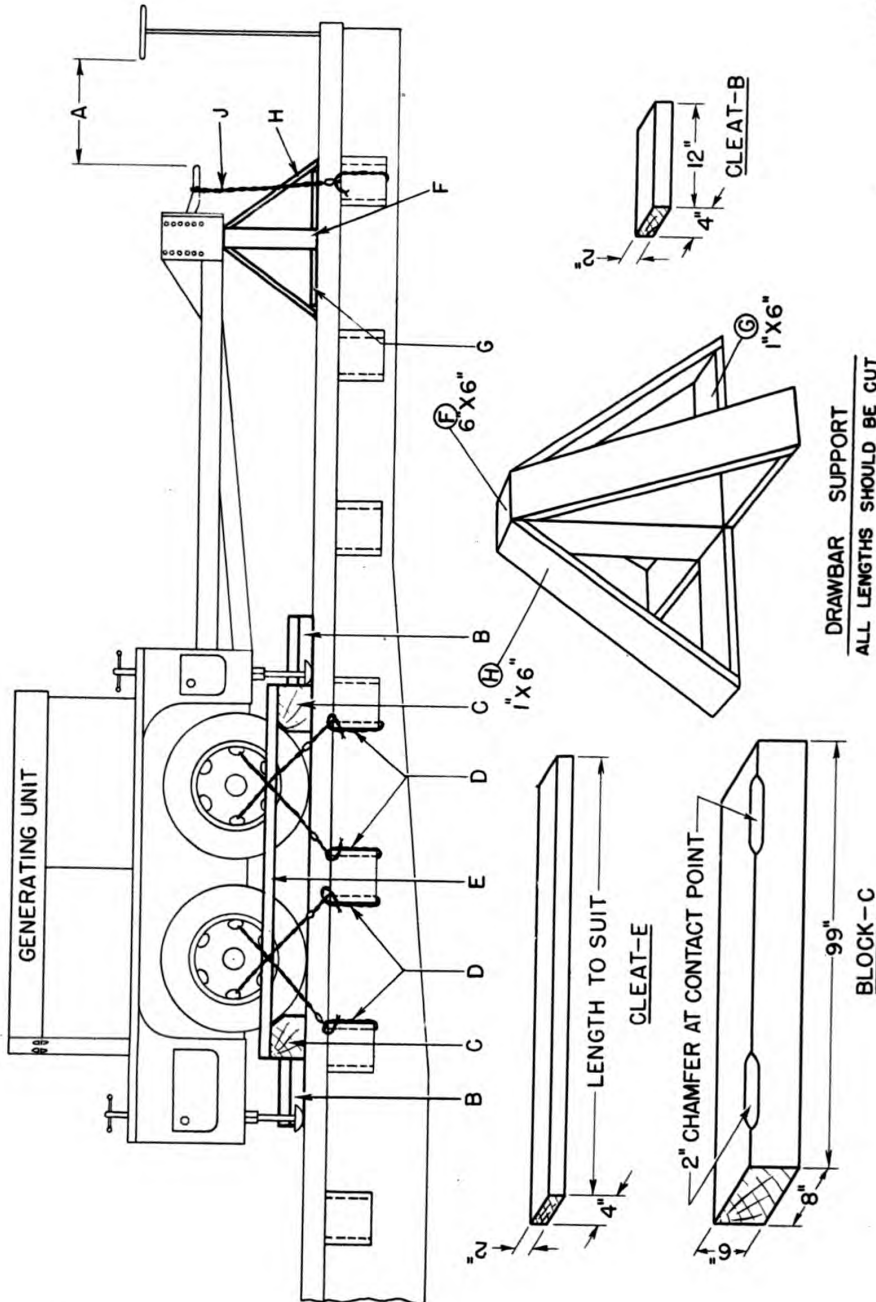

Figure 73 — Method of Blocking Generator Trailer M7 and Generating Unit M18 on Railroad Car
(7) **BRAKE WHEEL CLEARANCE (A, fig. 73).** Each railroad car must be loaded with a resulting brake wheel clearance of at least 6 inches in front, at each side and at the top. Brake wheel clearance should be increased as much as is consistent with proper location of load.
b. Method of Blocking Trailer M7 and Generating Unit M18 on Railroad Car. All item reference letters given below refer to the details and locations in figure 73).